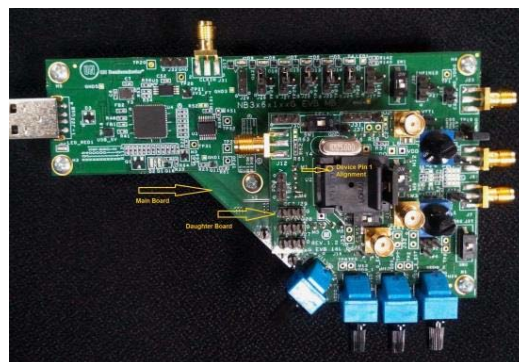

Figure 2. Top View of Main Board with 16QFN Daughter Board
- d. Place NB3H63143G in the DUT socket U2. For pin 1 alignment refer to Figure 2